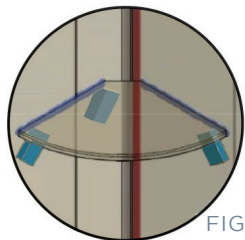

FIG.25
- Carefully place shelf on stabiliser blocks and gently push into corner. Check the level and add additional blocks to top of shelf to hold in place while adhesive cures. (FIG 25).